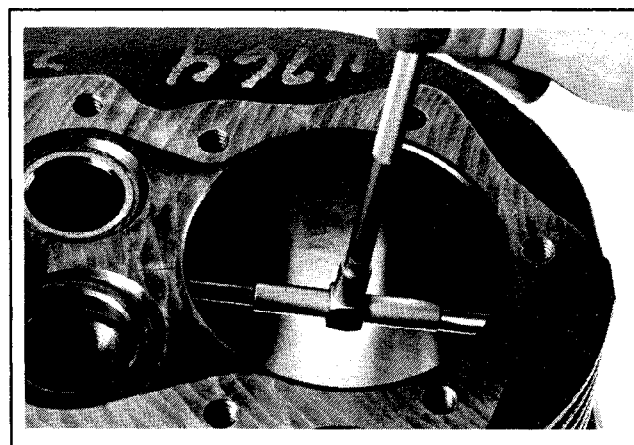

Figure 11-3. Measuring Cylinder Bore.
4. After resizing, check the bore for roundness, taper, and size. Use an inside micrometer, telescoping gauge, or bore gauge to take measurements. Refer to Figure 11-3. The measurements should be taken at three locations in the cylinder – at the top, middle, and bottom. Two measurements should be taken (perpendicular to each other) at each of the three locations.